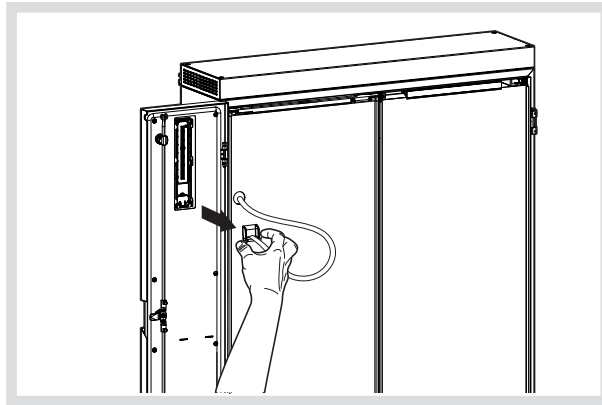

Figure 9: Pull off the plug from the LED status display
- Pull off the plug on the LED status display before removing the left door (Figure 9).